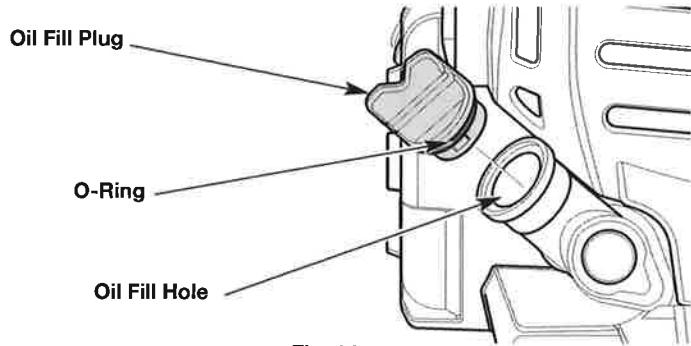

Fig. 14
2. Unscrew the oil fill plug (Fig. 14).
3. Pour the entire container of oil into the oil fill hole (Fig. 14). **DO NOT** overfill. Refer to *Checking the Oil Level*.
**NOTE:** Make sure the O-ring is in place on the oil fill plug (Fig. 14).